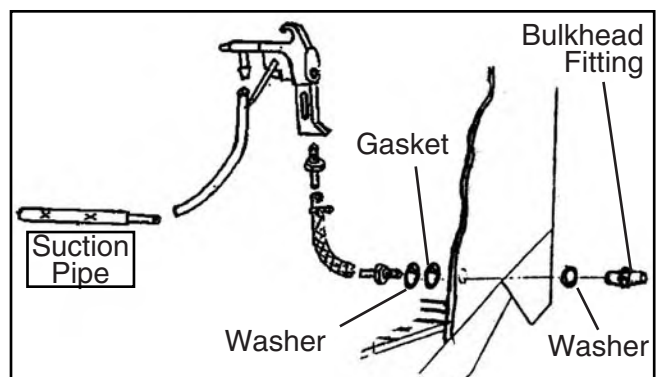

Figure 7. Blast gun assembly.
7. Install the bulkhead fitting with gasket. Attach the air supply hose and suction hose to the bulkhead fittings and suction pipe with hose clamps (**Figure 7**).